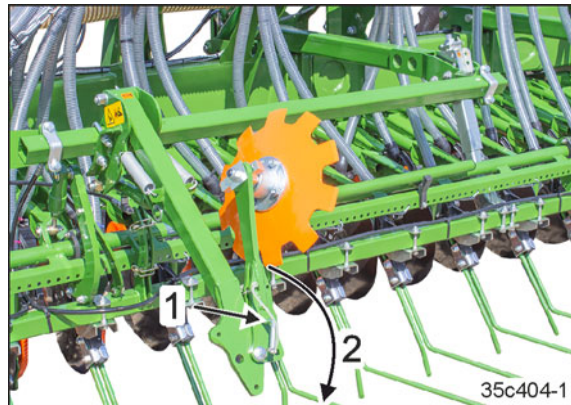

Fig. 240
2. Pull out the pin (Fig. 240/1) and fold the section (Fig. 240/2) with the track disc into working position.